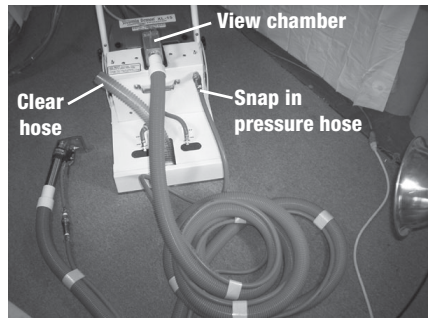

Figure 30: Stair/upholstery tool attachment
- A. Remove clear hose from view chamber (fig. 30).